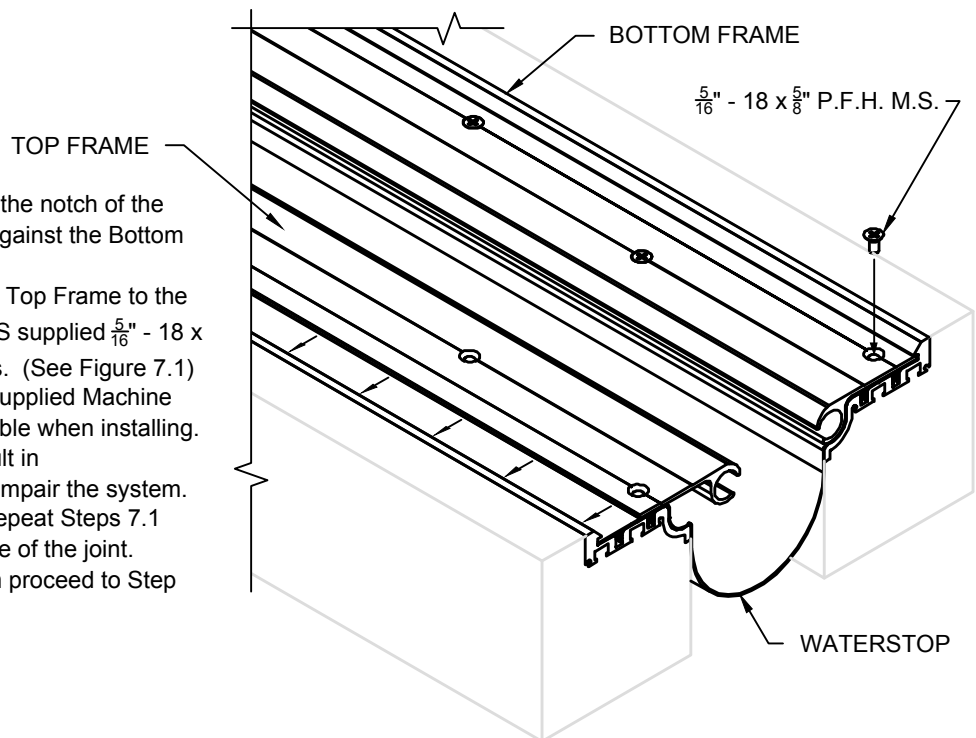

FIGURE 7.1
- 7.1) Slide the Top Frame under the notch of the Bottom Frame, and butt it against the Bottom Frame. (See Figure 7.1)
- 7.2) Once in position, fasten the Top Frame to the Bottom Frame using the C/S supplied  $\frac{5}{16}$ " - 18 x  $\frac{5}{8}$ " SS PFH Machine Screws. (See Figure 7.1)